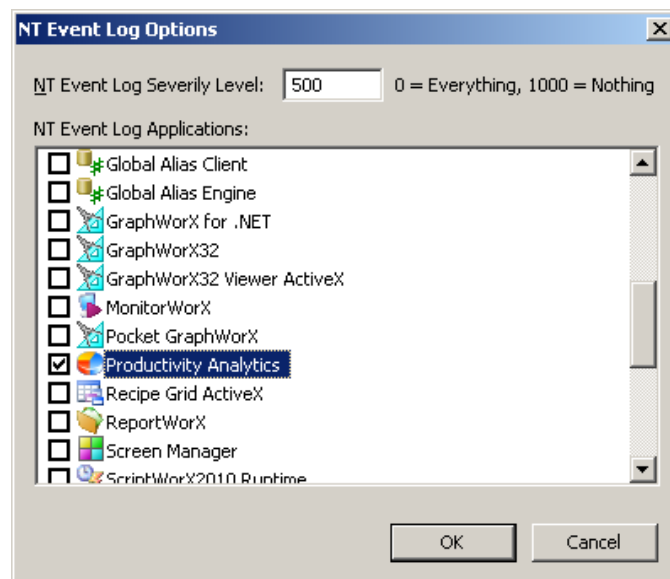

Figure L1.20 - Confirming NT Posting is Enabled
3. Scroll down to **Productivity Analytics** and confirm that it has a checkmark in its checkbox, as shown in Figure L1.20.